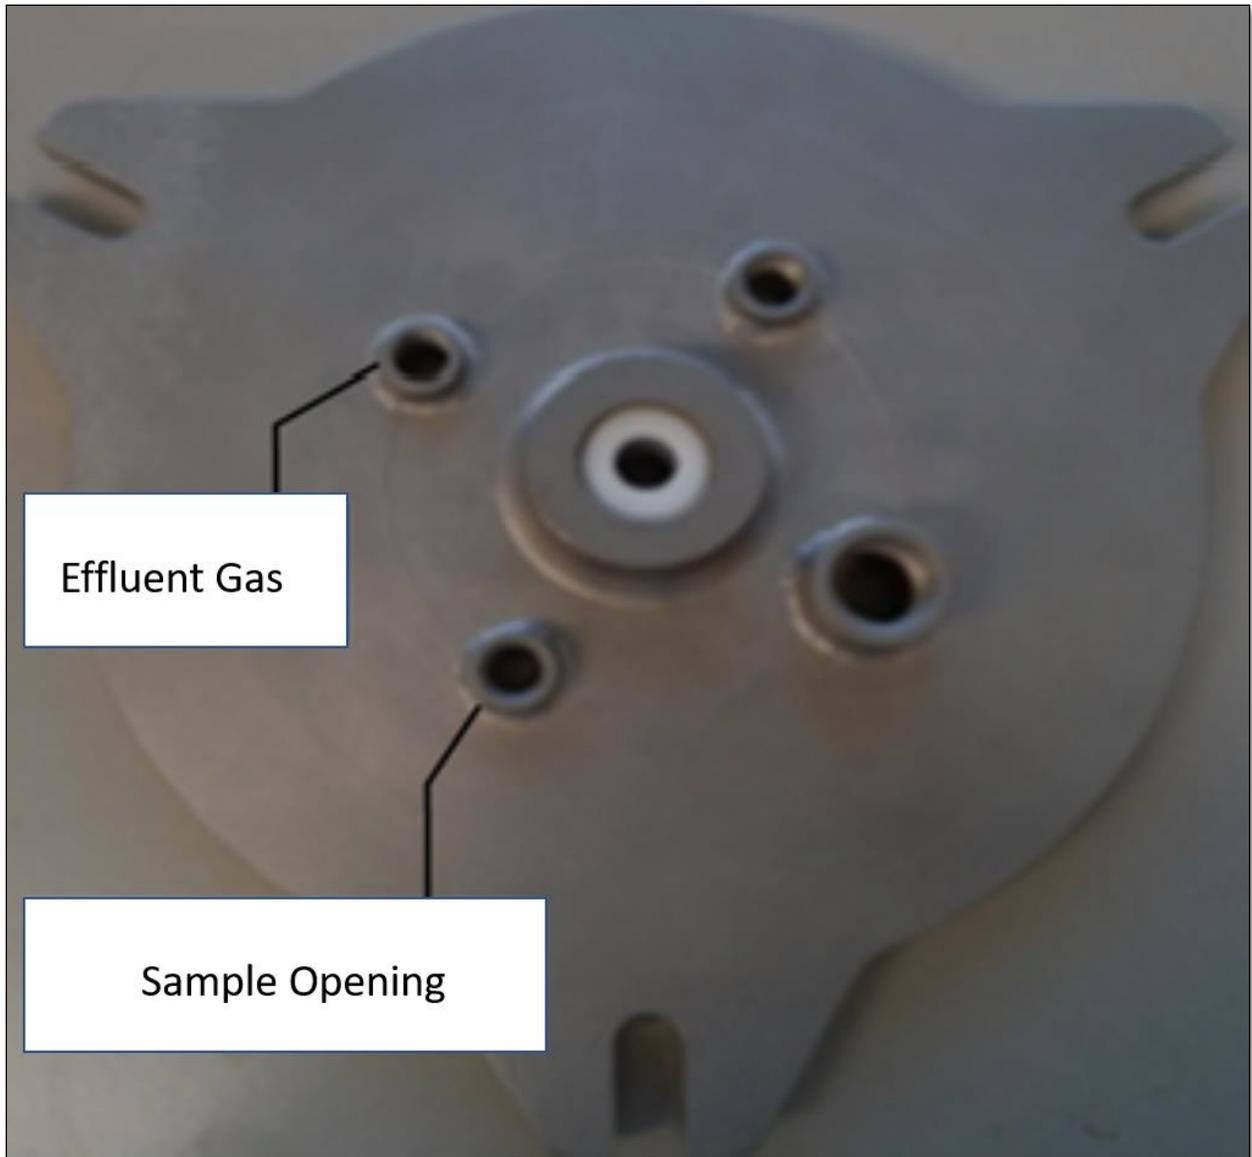

Figure 2: The Effluent Gas and Sample Opening holes on an Anaerobic Reactor
1. Open the reactor by using the sample removal hatch, noted in Figure 2 on Page 10